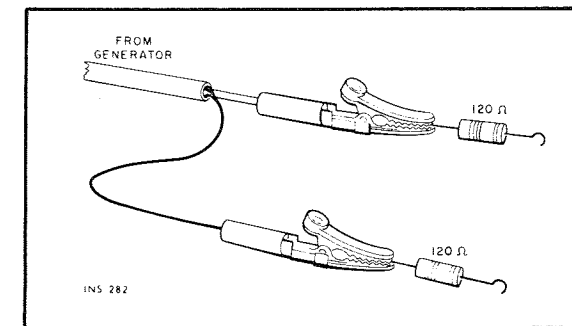
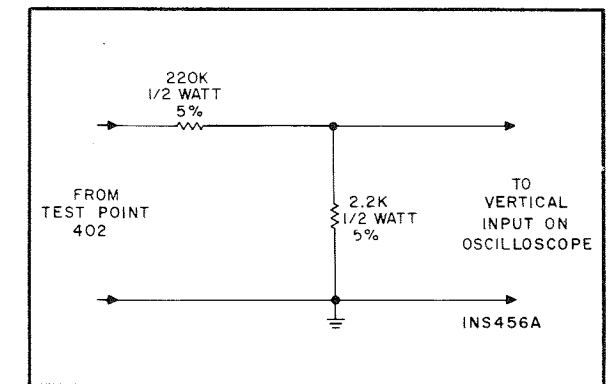

Figure 5. Connections To Provide 300-Ohm Generator Output Impedance. Matching Resistors Reduce Generator Voltage By Half At Antenna Terminals.
Figure 6. Voltage Divider Probe.
- Set TUNING dial pointer to zero (0) calibration mark on the logging scale. If the dial pointer is not centered on the 0 at the extreme end of knob rotation, reposition the pointer assembly on the dial cord and cement the pointer in place to prevent slippage. Allow cement to thoroughly dry.
- Connect an FM generator to the FM ANTenna terminals. Use a 120-ohm composition resistor in series with each lead from the generator (see Figure 5).
- (1) Connect RF output of multiplex generator to the FM ANTenna terminals. Use a 120-ohm composition resistor in series with each lead from RF output (see Figure 5). Set MPX generator for external modulation with 19 kHz pilot carrier, ± 7.5 kHz deviation (10% pilot, no audio). Tune receiver to RF frequency of MPX generator.
- (2) Connect DC VTVM to Test Point 403 (pin 4G on FM IF, MPX, METER board).
- (3) Adjust cores of Z401 and Z402 (on FM IF, MPX, METER board) for maximum reading on DC VTVM (2.5 to 4 VDC).
- (4) Connect output of audio generator, set for 1 kHz, to the external modulation input of MPX generator and to external sync input of an oscilloscope. Adjust audio generator level for composite signal ± 75 kHz deviation (10% pilot, 90% audio). Modulate right channel only.
- (5) Connect AC VTVM to Left OUT TO EXT RCDR jack. Connect scope through voltage divider probe (see Figure 6) to Test Point 402 (pin 4K on FM IF, MPX, METER board).